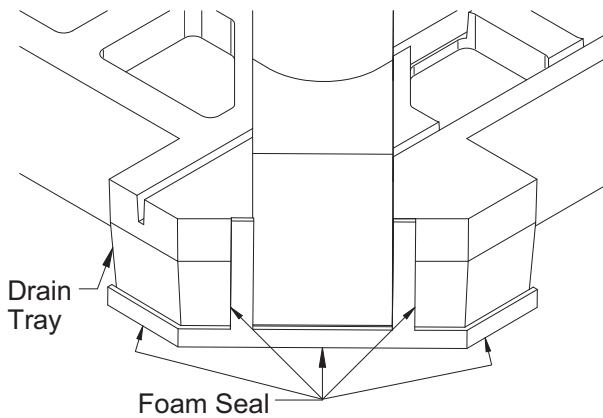

Fig. 46 — Close up of Foam Seal
7. Adhere the foam seal to the condensate drain tray as shown in Fig. 46 and 48.